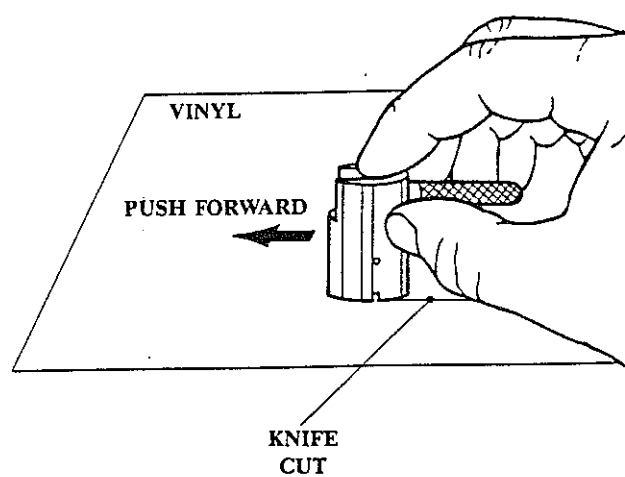

FIGURE 1-5. DETERMINING THE LENGTH OF THE KNIFE BLADE
3. Acquire a piece of the same type of vinyl that will be installed in the cutter and place it on a flat surface. Hold the knife holder in your hand as shown in Figure 1-5 and push it across the piece of vinyl. Check the quality of the cut. If the knife did not cut the vinyl, then slightly turn the adjustment set screw clockwise. If the knife cut the vinyl and the media backing, then slightly turn the adjustment set screw counterclockwise. Repeat this procedure until the knife cuts only the vinyl and not the media backing.